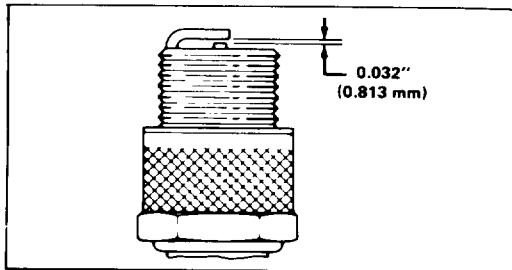

Figure 17
3. INSTALL SPARK PLUG — Set air gap (Fig. 17) between electrodes at .032" (8.1 mm). Install plug and tighten to 15 ft-lb (20.4 N.m). If torque wrench is not used, tighten plug firmly. Push wire onto spark plug and reinstall control panel with (3) capscrews.